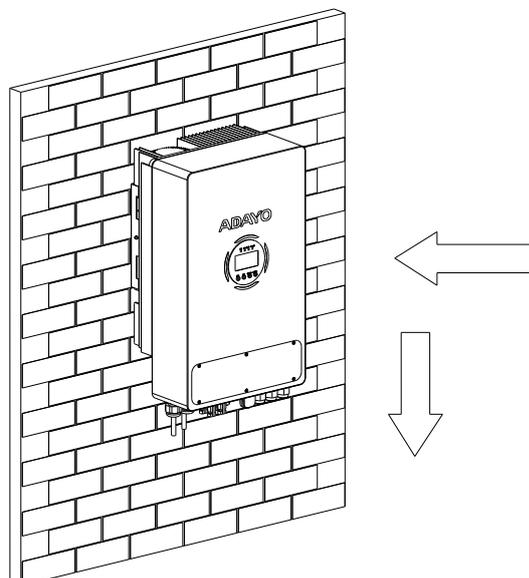

Figure 10
- Lift the inverter a little higher than the stand while taking its weight into account to ensure that it remains balanced. Then hang the inverter on the bracket using the hook provided on the bracket, as shown in Figure 10.